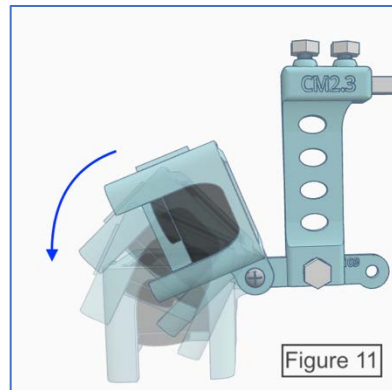

Figure 11: Adjust Camera Position
3. Adjust the angle of the camera by loosening the bolt until the camera moves. Retighten the bolt when the camera is in the desired orientation. (Figure 11)